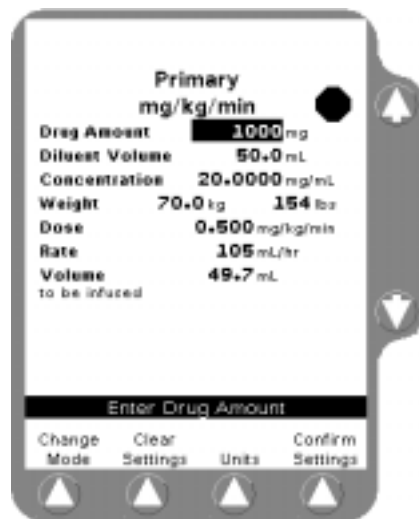

Figure 5-19 Clear Stored Settings
4. Press the **Select** soft key to display the Dose Programming screen (Figure 5-19), which allows you to enter patient weight.